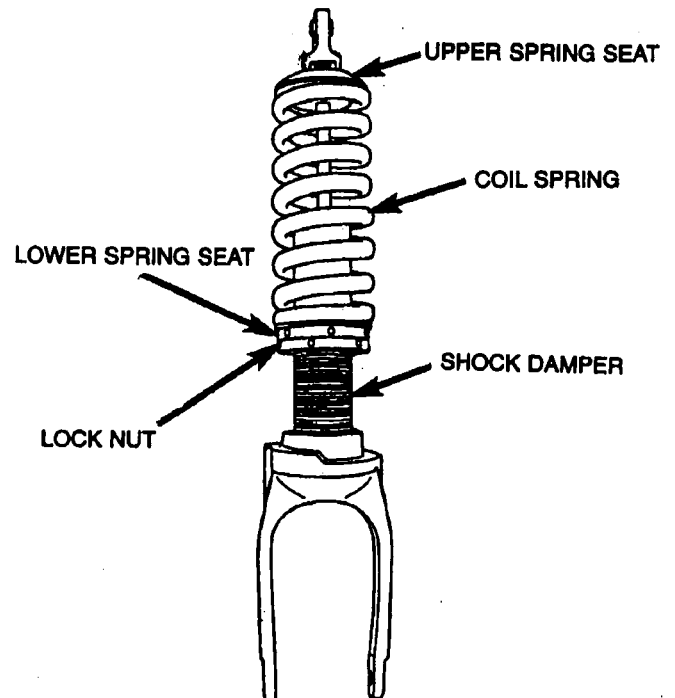

Figure 31 – Rear Shock Assembly Shown
1. Remove the front and/or rear shock absorber assemblies from the vehicle (Figure 31).
3. Using two adjustable pin spanner wrenches (Snap-on P/N APS357B, OTC P/N JHW-0-472 or equivalent), one on the lower spring seat and the other on the lock nut below it, loosen and back off the lock nut (Figures 31 and 32).